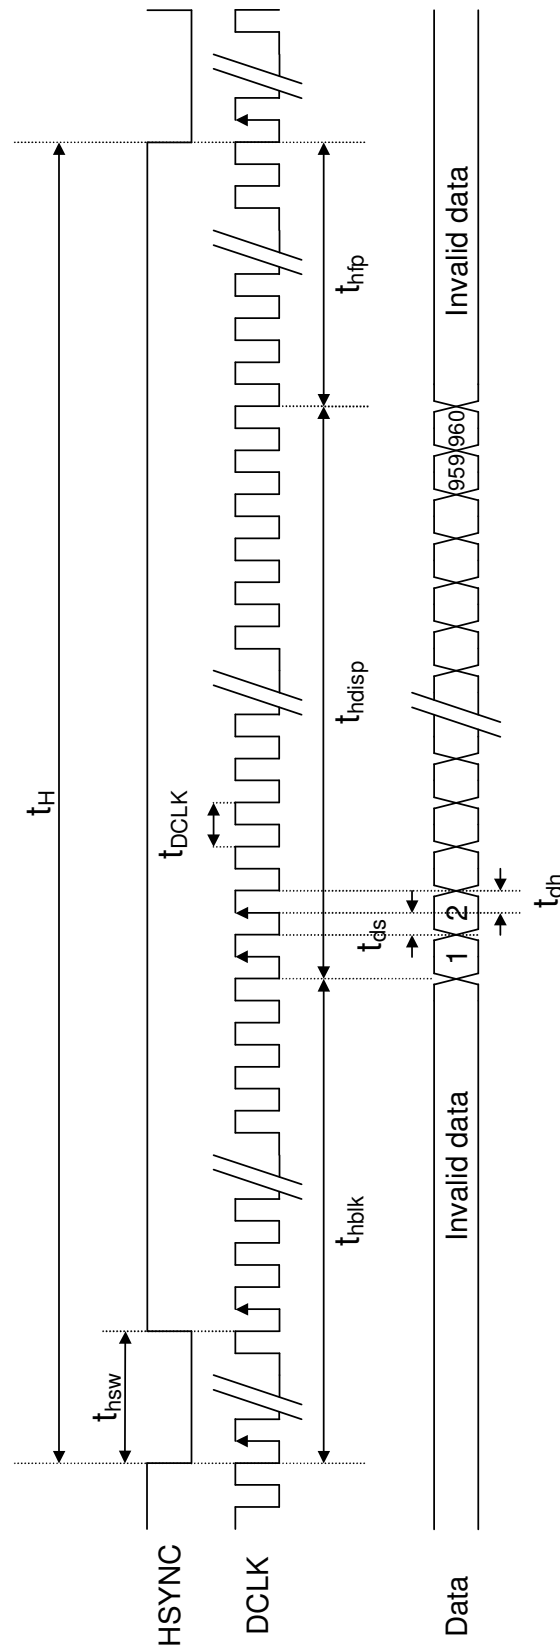
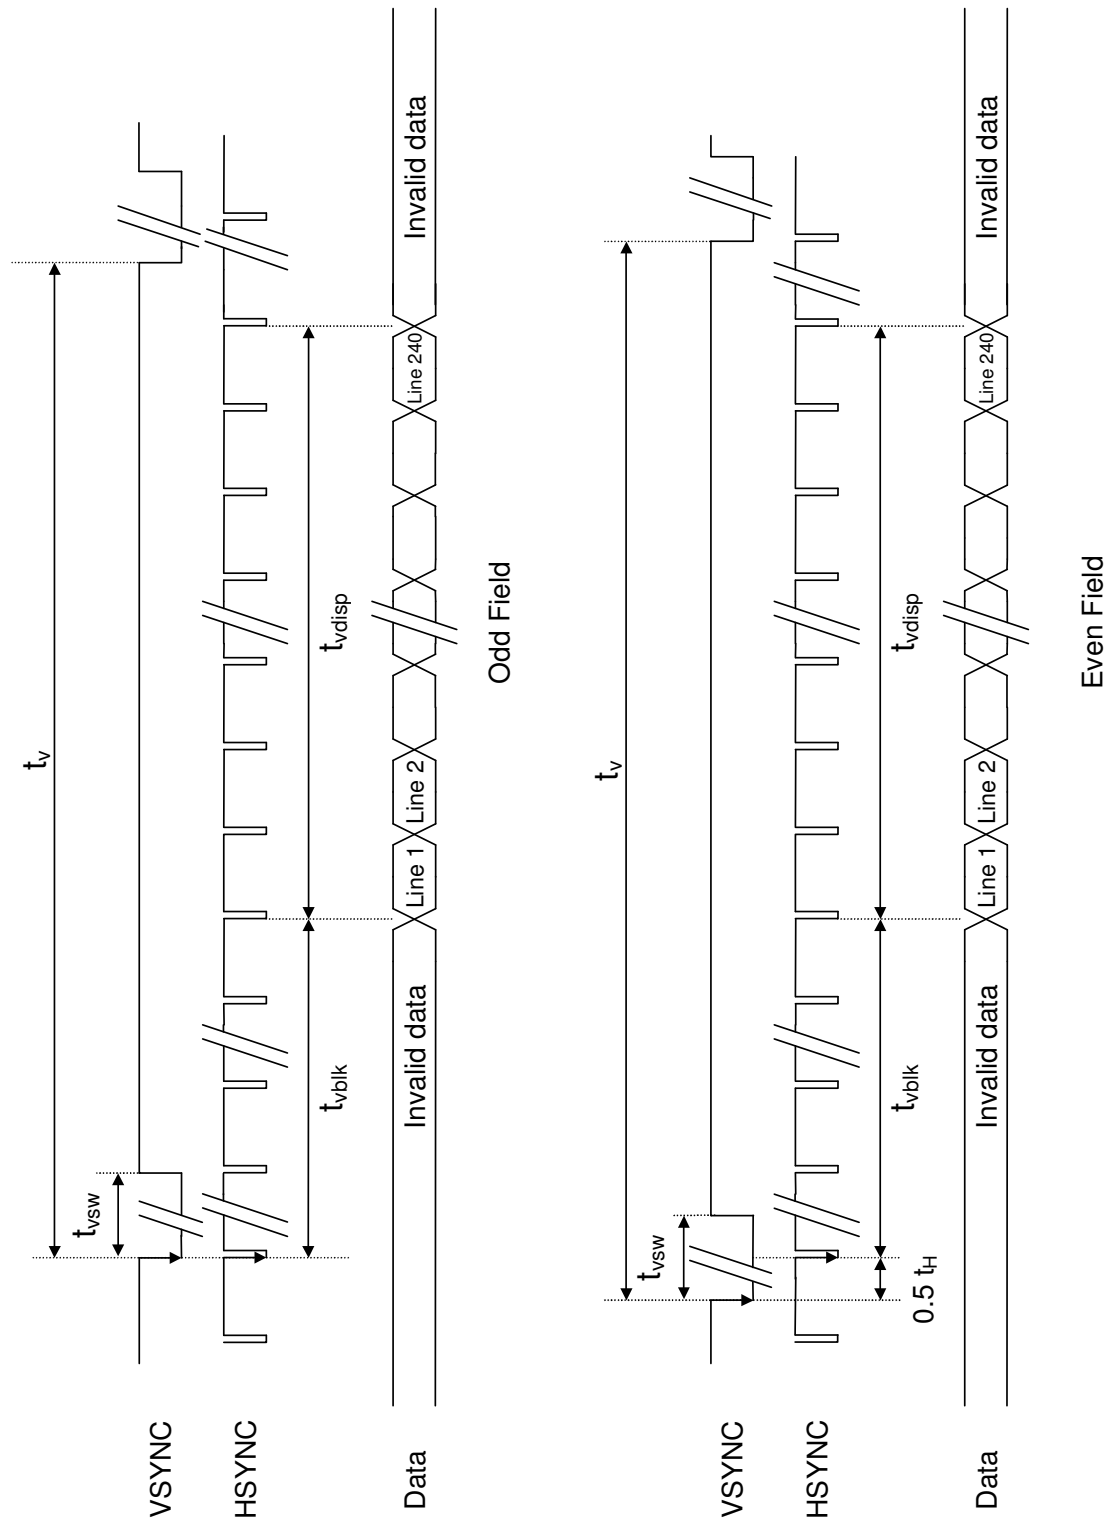

Fig. 1 UPS051 Input Horizontal Signal
Fig. 2 UPS051 Input Vertical Signal
a. UPS051 (24MHz) Timing conditions (refer to Fig. 1, Fig. 2)
b. UPS051 (20MHz) Timing conditions (refer to Fig. 1, Fig. 2)